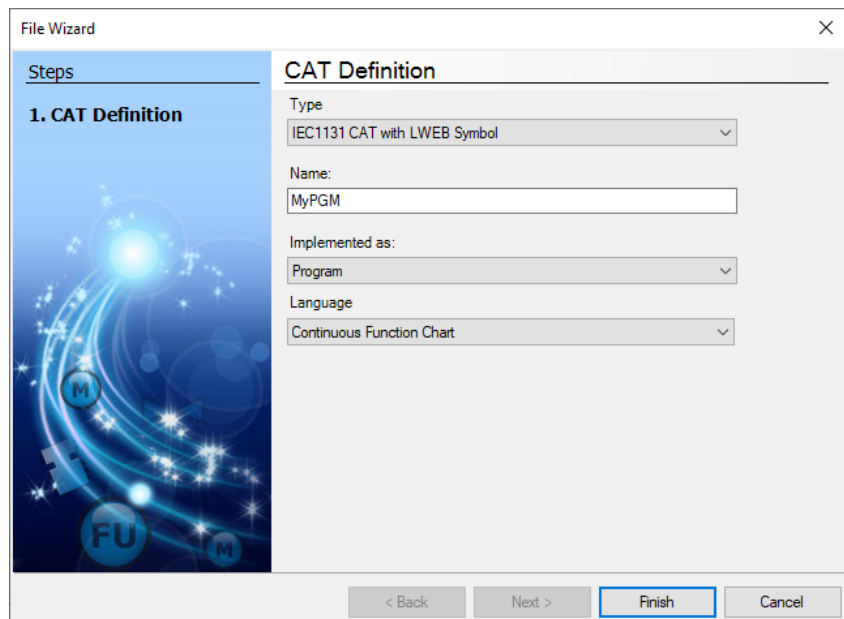

Figure 42: Create a 61131 program CAT.
4. Create a 61131 program CAT: In the 'KickStart' solution tree, select **CAT → Application**. Then right-click and choose **New Item**. Select IEC61131 CAT, enter a name, and select **Program** as implementation and **Continuous Function Chart**. Then click **Finish** as shown in Figure 42.